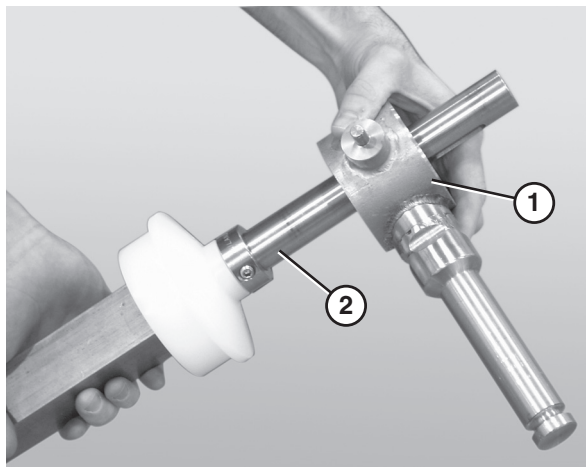

Figure 77
7. Slide the second bearing shaft assembly, or the motor mount bracket (**Figure 77, item 1**), onto the longer end of the drive spindle (**Figure 77, item 2**).